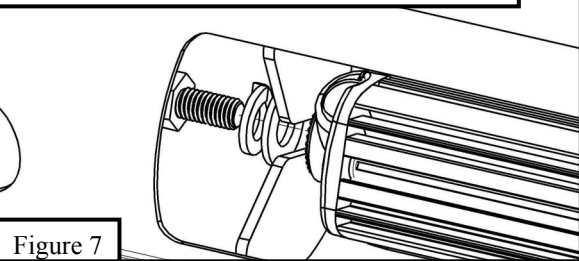

Figure 7
10. **For part numbers 32-3870L & 32-3875L:** Refer to **Page 4** for wiring instructions. Loosen M8 hardware to adjust the LED light in bull bar or to remove it in order to replace it. See **Figure 7** for location of M8 hardware.